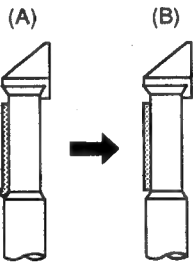

Fig. 7-3-4 No. 8 guide rough adjustment
- 2. Turn the ACE tilt adjusting screw until tape wrinkle is caused at the lower flange of No. 8 guide as shown in Fig. 7-3-4 (A).
- 3. Turn the ACE tilt adjusting screw counterclockwise until the tape travels along the lower flange as shown in Fig. 7-3-4 (B).